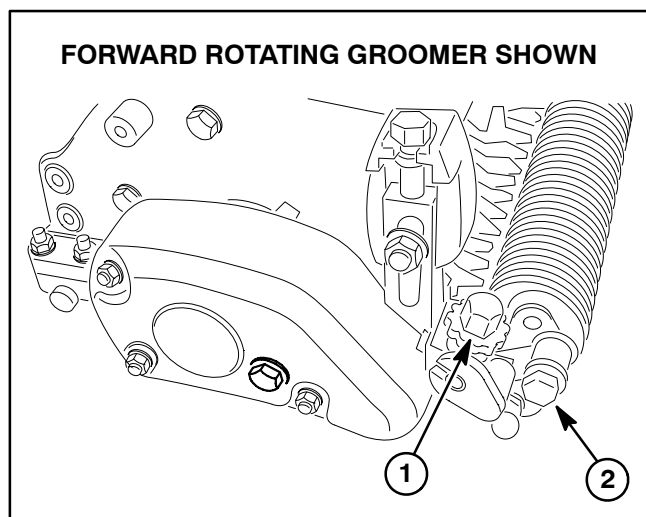

Figure 2
4. Position the grooming reel to the lowered, grooming position (Fig. 2).
5. On one end of the grooming reel, measure the distance from the lowest tip of the groomer blade to the working surface. Lift and turn height adjustment knob to raise or lower the blade tip (Fig. 2). Each notch on the adjustment knob changes the groomer height approximately 0.003 inch (0.08 mm).